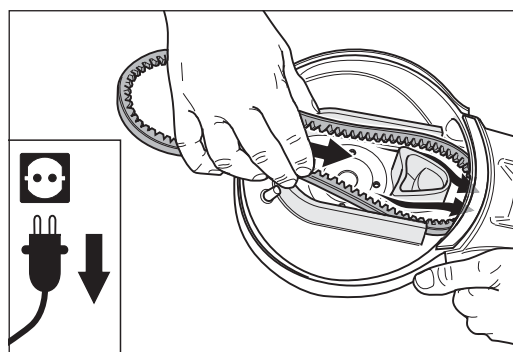

Fig. 71 Inserting a new V-belt and pulling it all the way back on the motor side.
- 10 Insert a new V-belt (fig. 71). Pay attention to the correct installation position of the belt and pull the belt all the way back on the motor side.